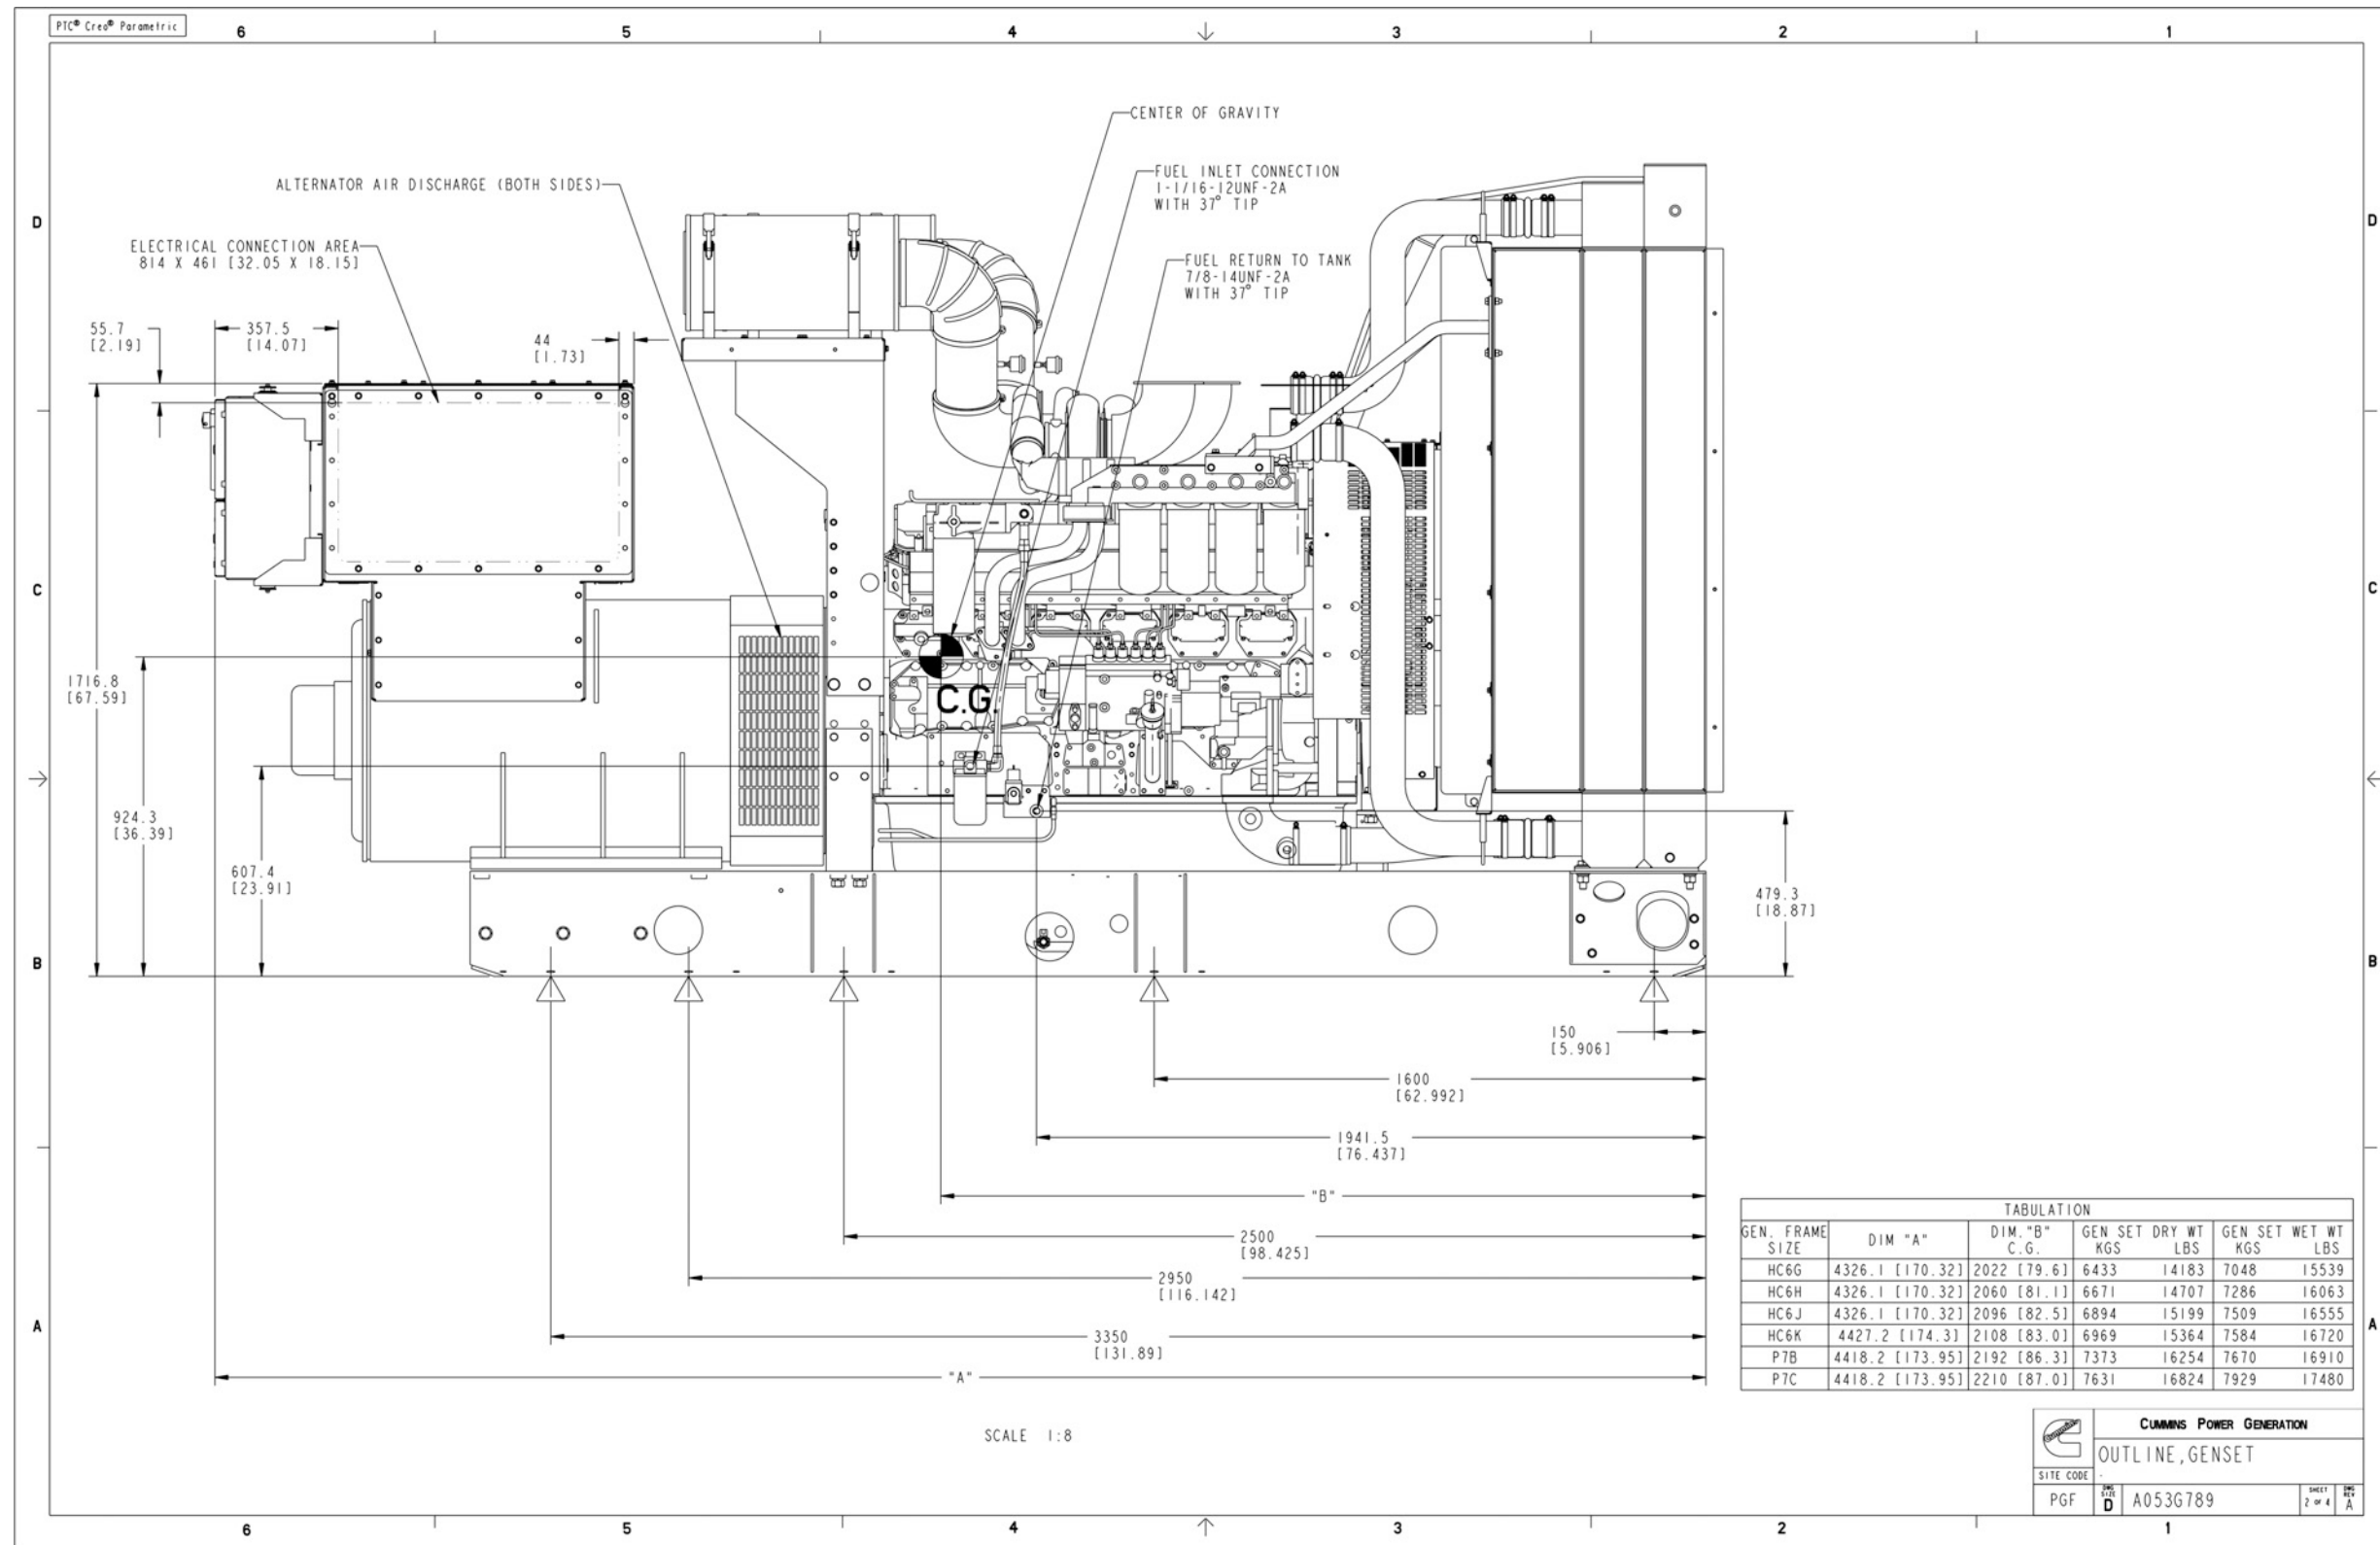

FIGURE 62. GENERATOR SET OUTLINE DRAWING (BEARWARD SET MOUNTED RADIATOR) (SHEET 2)
- Figure 62. Generator Set Outline Drawing (Bearward Set Mounted Radiator) (Sheet 2) 128